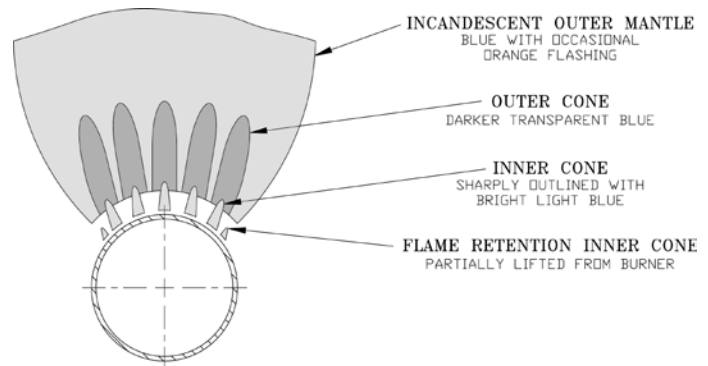

Figure 17: 40mm Main Burner Flame
D. Check Main Burner Flame. See Figure 17 or 18.